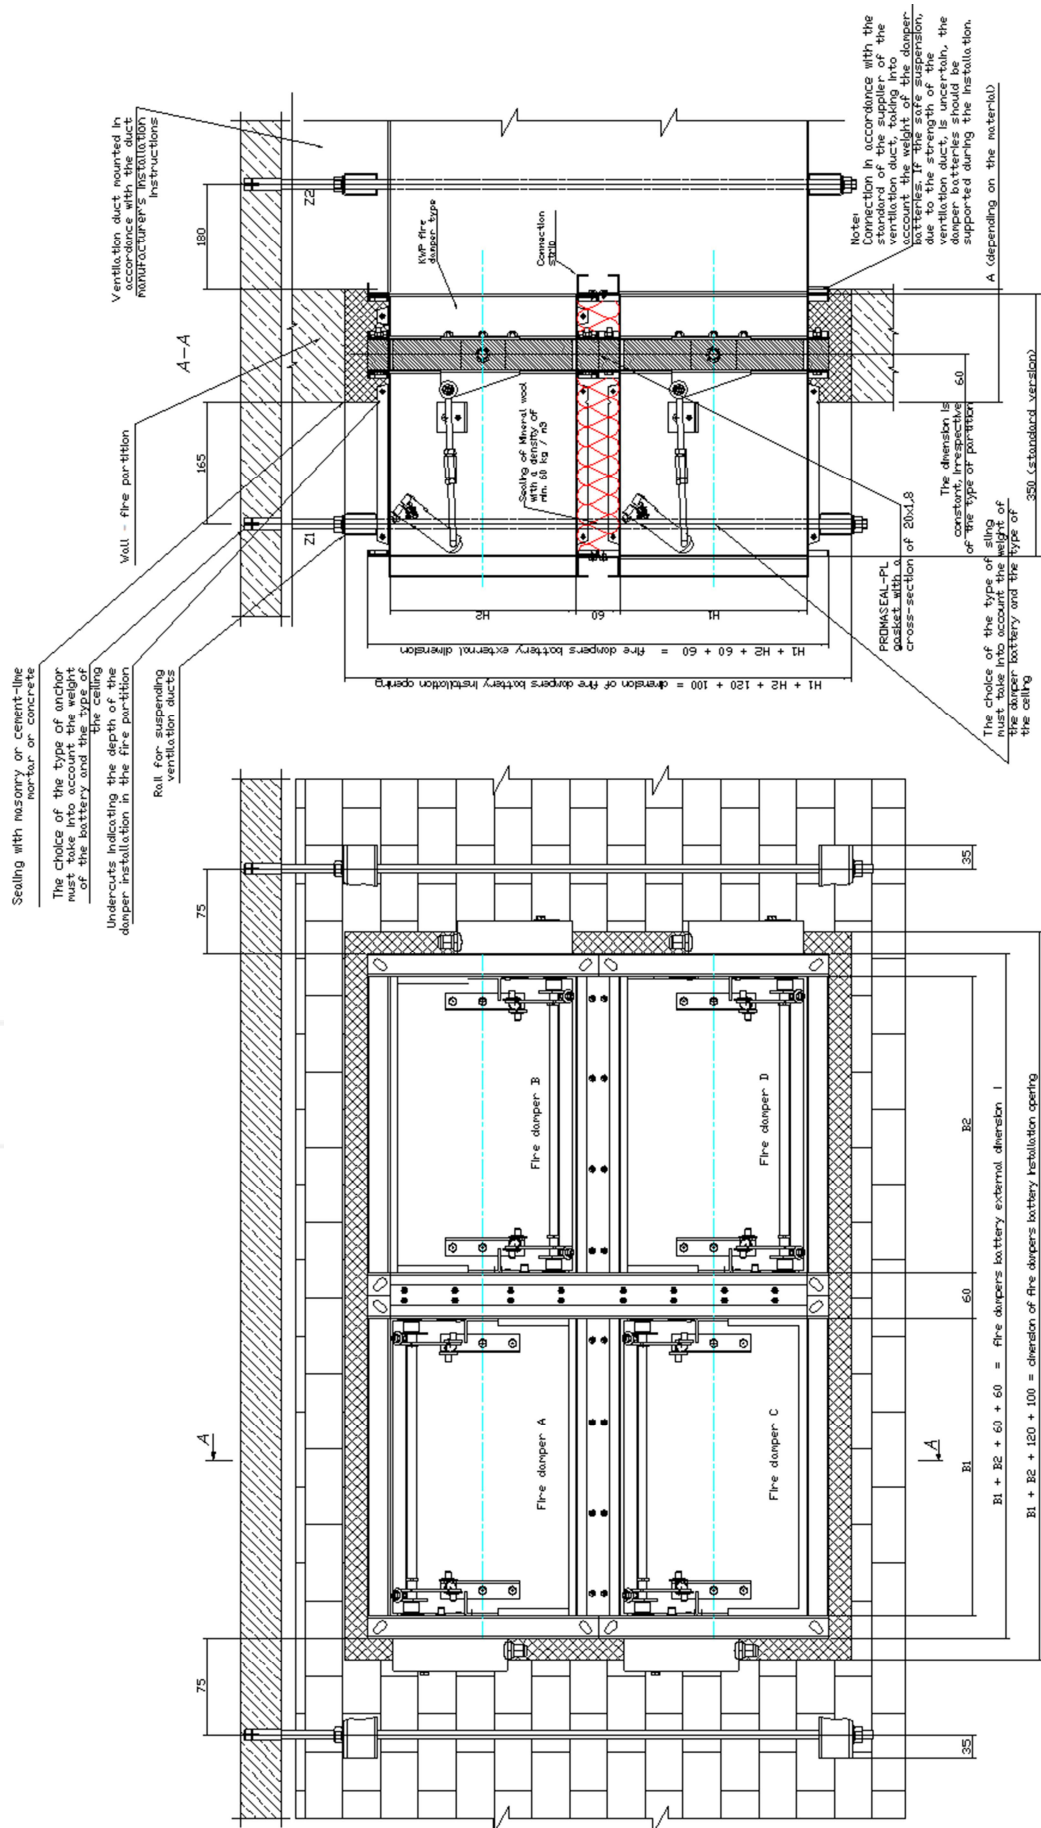

Figure 17. Installation of a battery consisting of four fire dampers KWP-O-Ex in wall
- For horizontal battery consisting of two KWP-O-Ex fire dampers: $(B1+B2+180) \times (H1+120)$ (Figure 17),